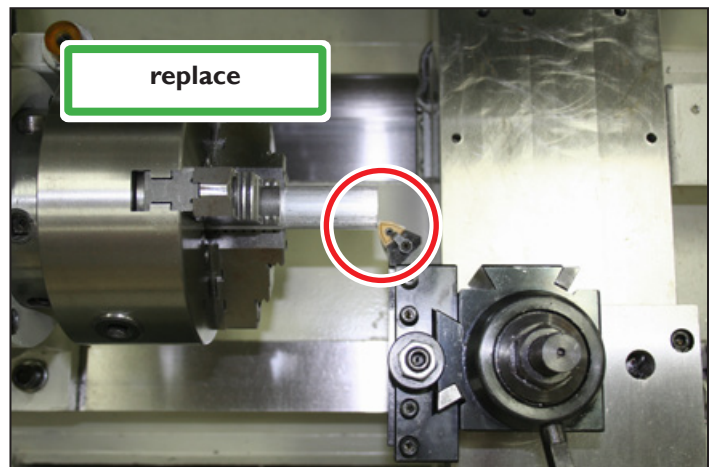

Figure 4.7
1. Insert an empty toolholder in your quick change tool post and jog the machine until the tool holder touches the end of the workpiece (see **Figure 4.7**). You may use a sheet of paper as a feeler gauge to tell you when you're making contact.